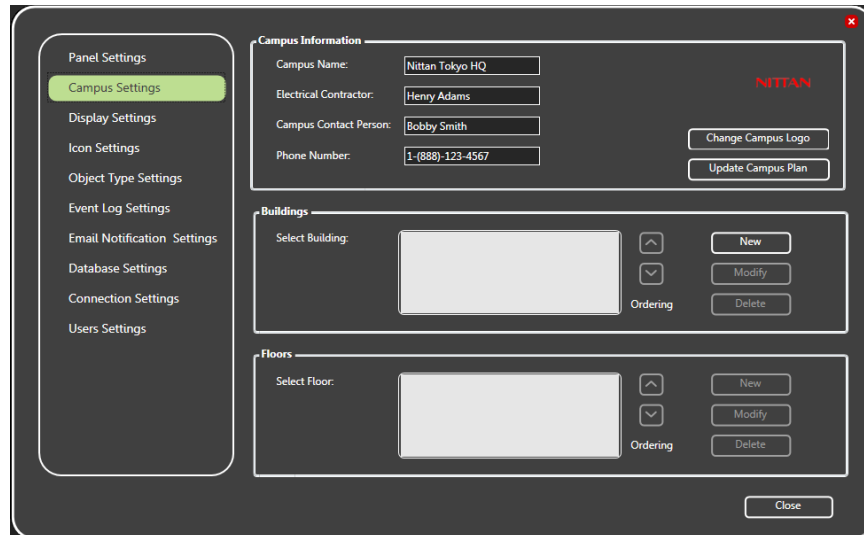

Figure 49 Campus Settings
1. Click **Update Campus Plan** in the Campus Settings window (Figure 49 on page 69).
1. Click **Change Campus Logo** in the Campus Settings window (Figure 49 on page 69).
The Campus Settings window appears (see Figure 49 on page 69).